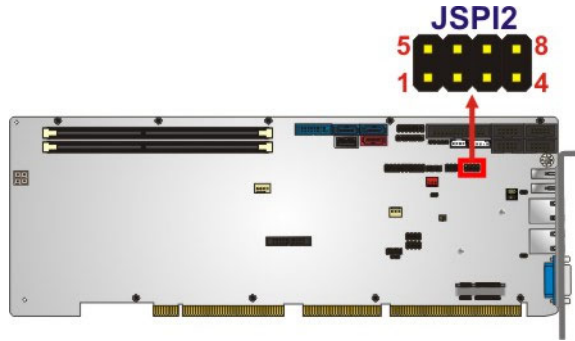

Figure 3-27: SPI EC Flash Connector Location
3.2.26 SPI Flash Connector (EC)
- CN Location:** See **Figure 3-27**